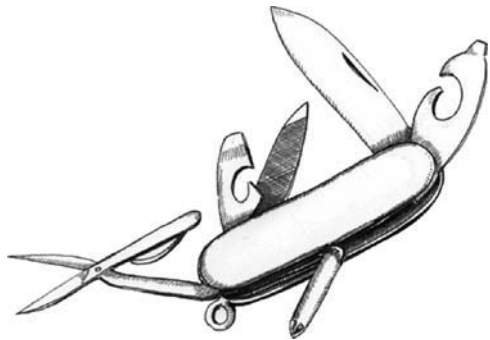

Figure D.7
- Swiss Army knife or similar pocket knife (see Figure D.7)